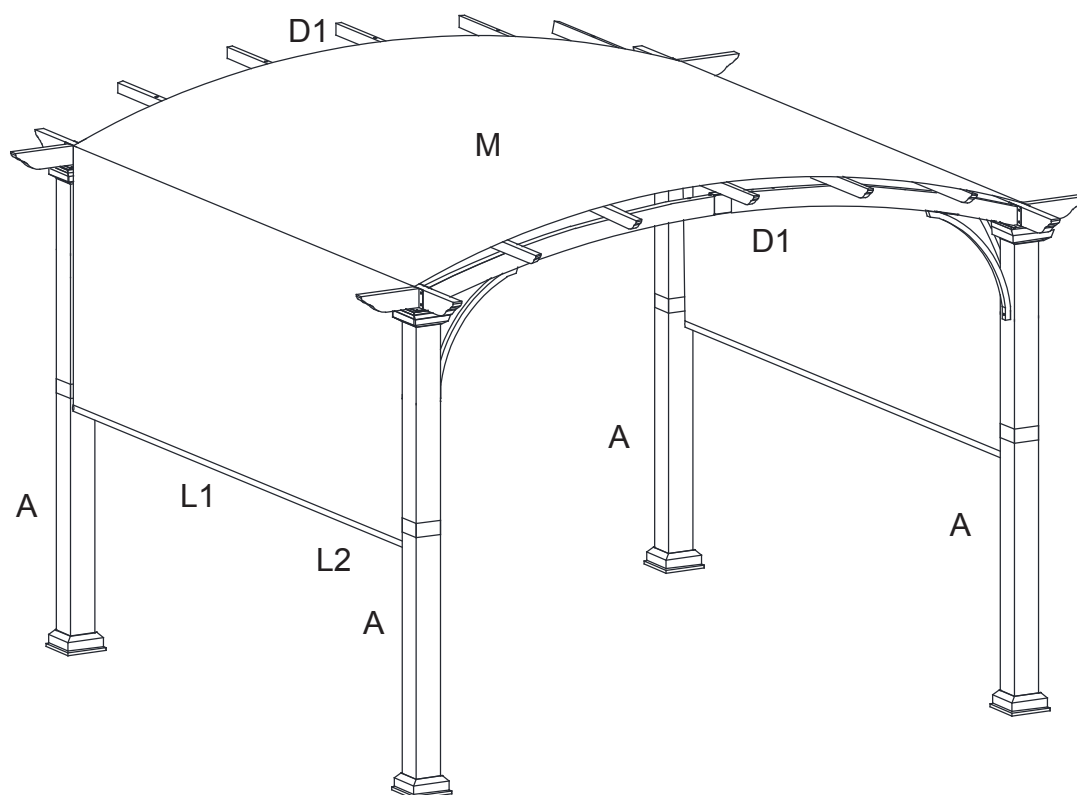

**Figure 8**
**Step 8:** Place the Canopy (M) on the top of the pergola. Attach the Short Canopy Support Bar (L1) to the Long Canopy Support Bar (L2). Insert the assembled tubes (L1/L2) into the hemline of the canopy. Secure the canopy to the Corner Posts with the Tie Strap. See Figure 8.